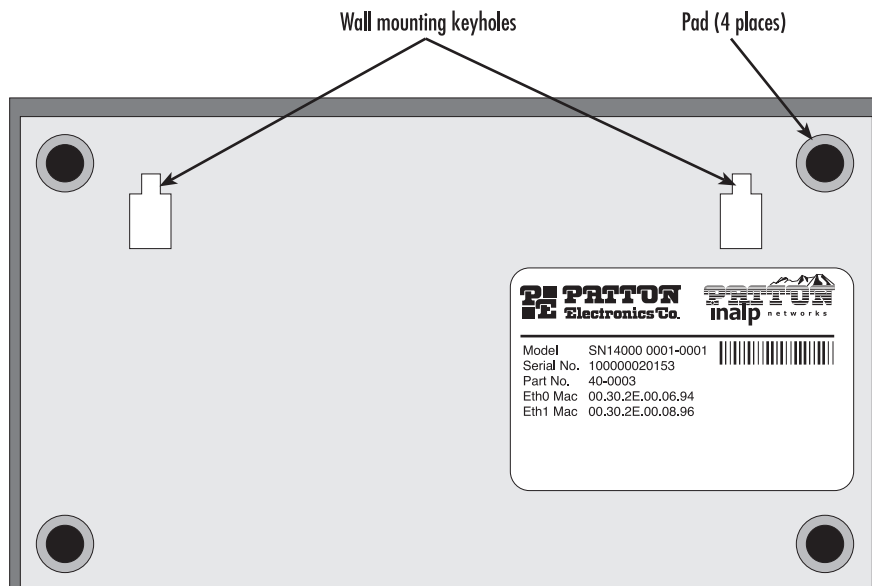

Figure 44. Pads and wall-mounting keyholes locations
1. Remove one of the rubber pads from the adhesive strip (included in the SmartNode installation kit pack) and place it on a corner on the bottom of the SmartNode 1400 (see figure 44).
2. Install the (user-provided) wall anchors. Any standard anchoring method may be used, such as wood screws; butterfly anchors/molly bolts (for installation into a sheetrock/drywall or plasterboard surface); or expansion bolts (for installation into a concrete or masonry surface). The anchor screw heads must have just enough clearance to allow the wall-mounting key holes (see figure 44 on page 77) to slip onto them when hanging the SmartNode 1400.